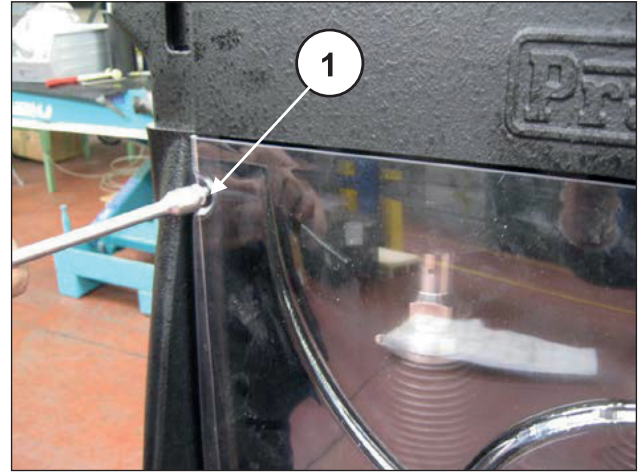
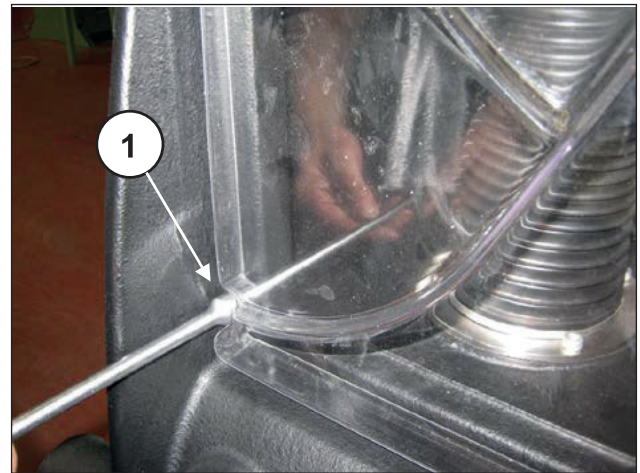

Fig. 218
Fig. 219
Now refit the inspection cover and secure it by carefully tightening the 4 M6 fixing screws (pos. ①, Fig. 218 and Fig. 219).